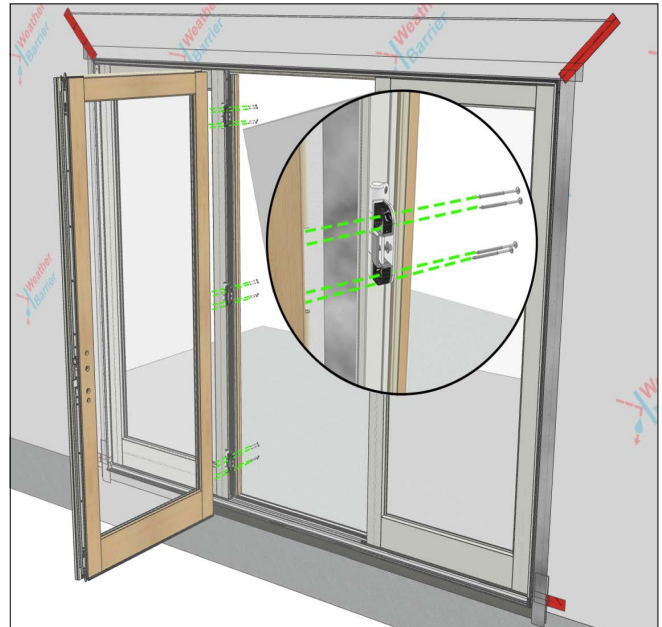

Figure 33
7. Fasten 4 x 2-1/2" matching screws are used to attach each hinge of the panel. Hinges are pre-applied to stationary panel on the swinging jamb. See Figure 33.